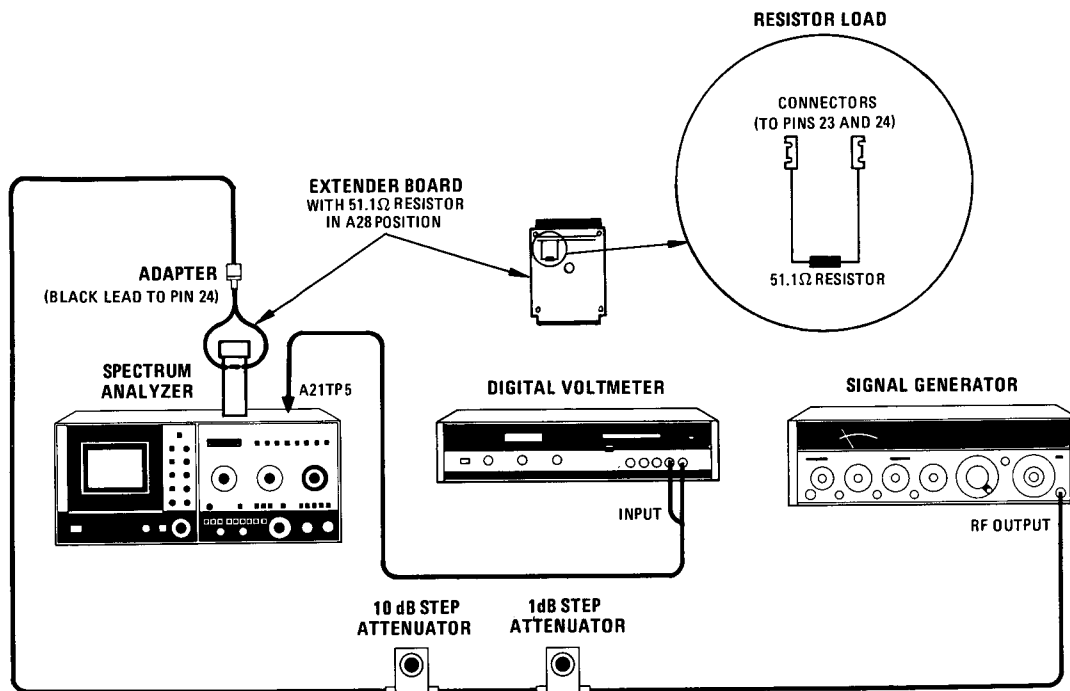

Figure 5-24. Step Gain Adjustment Test Setup
- Install 51.1 ohm resistor between pins 23 and 24 on extender board (Figure 5-24). Remove A28 Variable Gain Amplifier and install extender board in its place (do not install A28 on extender board).
- Reconnect power cord, set LINE switch ON, connect equipment as shown in Figure 5-24, and set 8565A controls as follows: